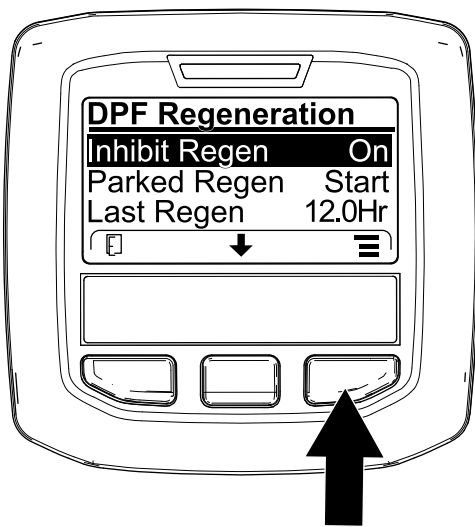
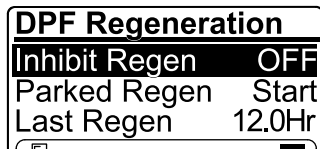

Figure 40
Figure 41
1. Access the DPF Regeneration menu, press the center button to scroll down to the INHIBIT REGEN option, and press the right button to select the Inhibit Regen entry (Figure 40).
2. Press the right button to change the inhibit regeneration setting from On to Off (Figure 40) or from Off to On (Figure 41).